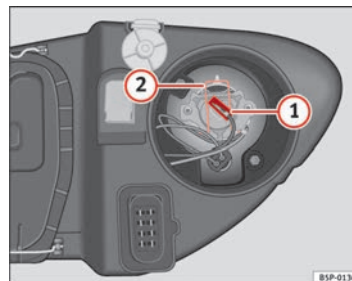

Fig. 182 Main beam headlights
- Remove connector ⇒ Fig. 182 ① from the bulb.
- Press the spring ⇒ Fig. 182 ② inwards and to the right.